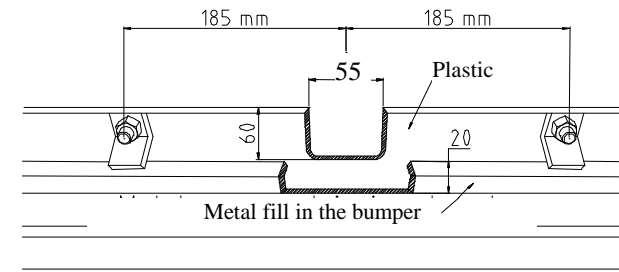

Fig. 2
3. Insert the main bar of towing hitch in the chassis and fix with M12x40mm (pos. 9) bolts in marked points (pos. A).
5. Disassemble the towing hitch an then join with the bumper after previous cut a fragment in the bumper. Look the fig. 2.
7. Apply the distance sleeve  $\varnothing 17$ , L=35mm (pos. 4) to the hole (pos. B) and fit with the M10x100mm (pos. 8) bolt. By the holes (pos. C) fix by M10x40mm (pos. 9) bolts and longitudinal washers (pos. 5).
8. Fix the tow-ball (pos. 2) and the socket plate (pos. 3) using bolts M12x75mm (pos. 6) and M12x70mm (pos. 7).